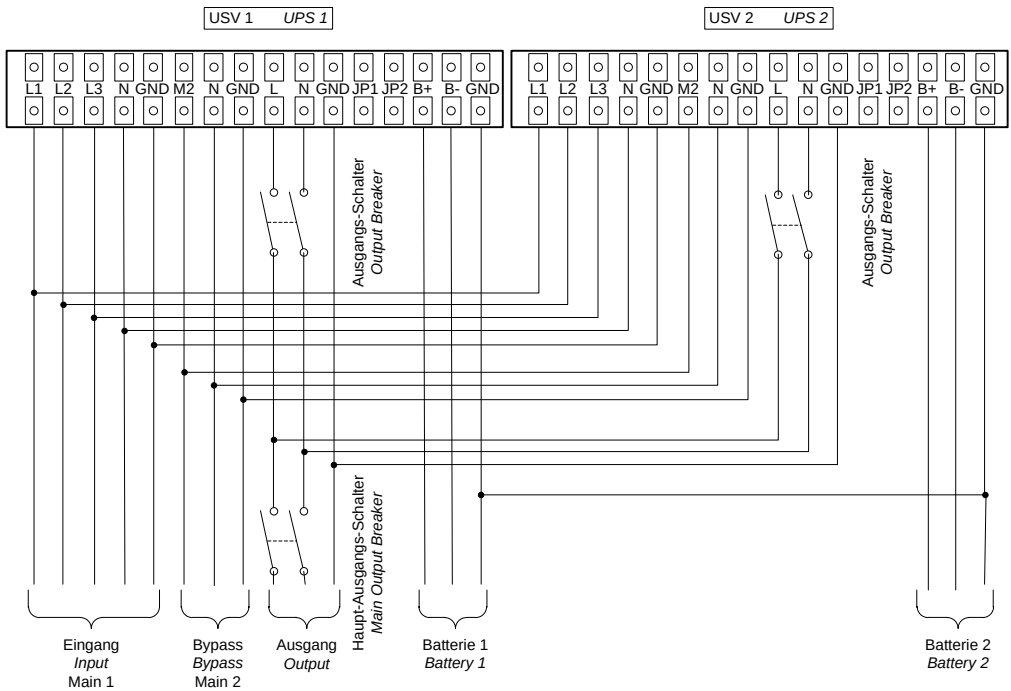
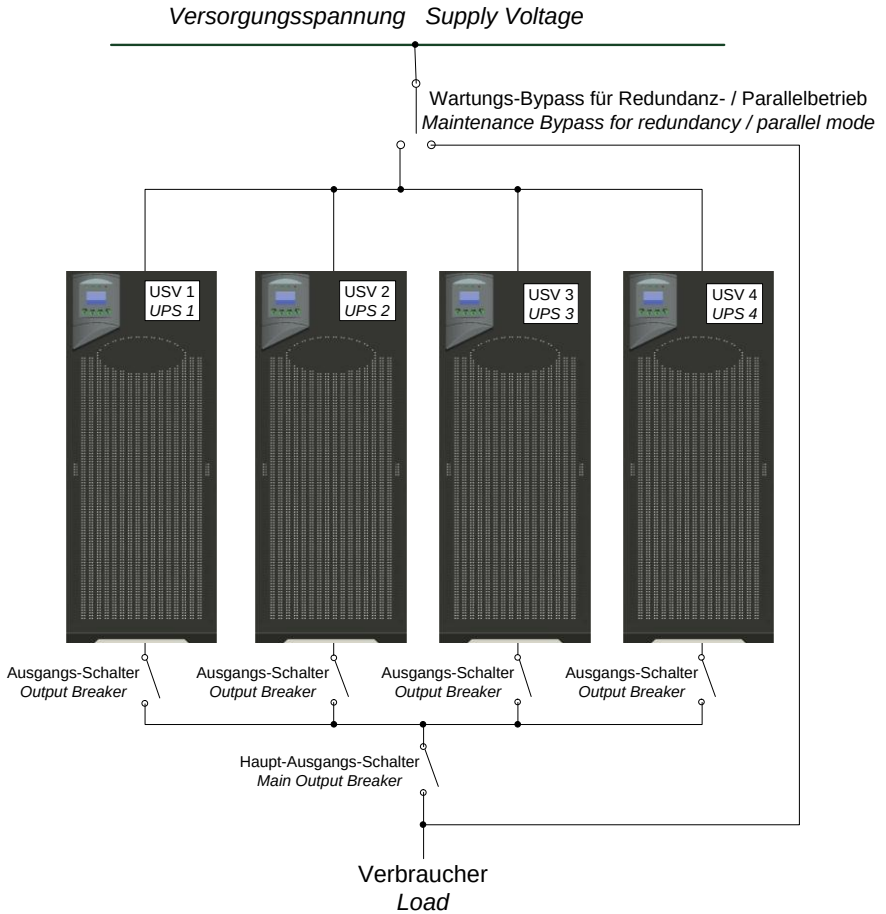

Figure 23: Connection diagram 1 Redundant/parallel operation
Figure 24: Connection diagram 2 Redundant/parallel operation
7. Connect the inputs and outputs of the UPS systems according to Figure 23 and Figure 24 with the individual power switches (power switch is not included in the scope of delivery). Make sure that all power switches are opened.
8. In addition, ONLINE recommends installing an additional maintenance switch (not included in the scope of delivery) for the network (see Figure 24).